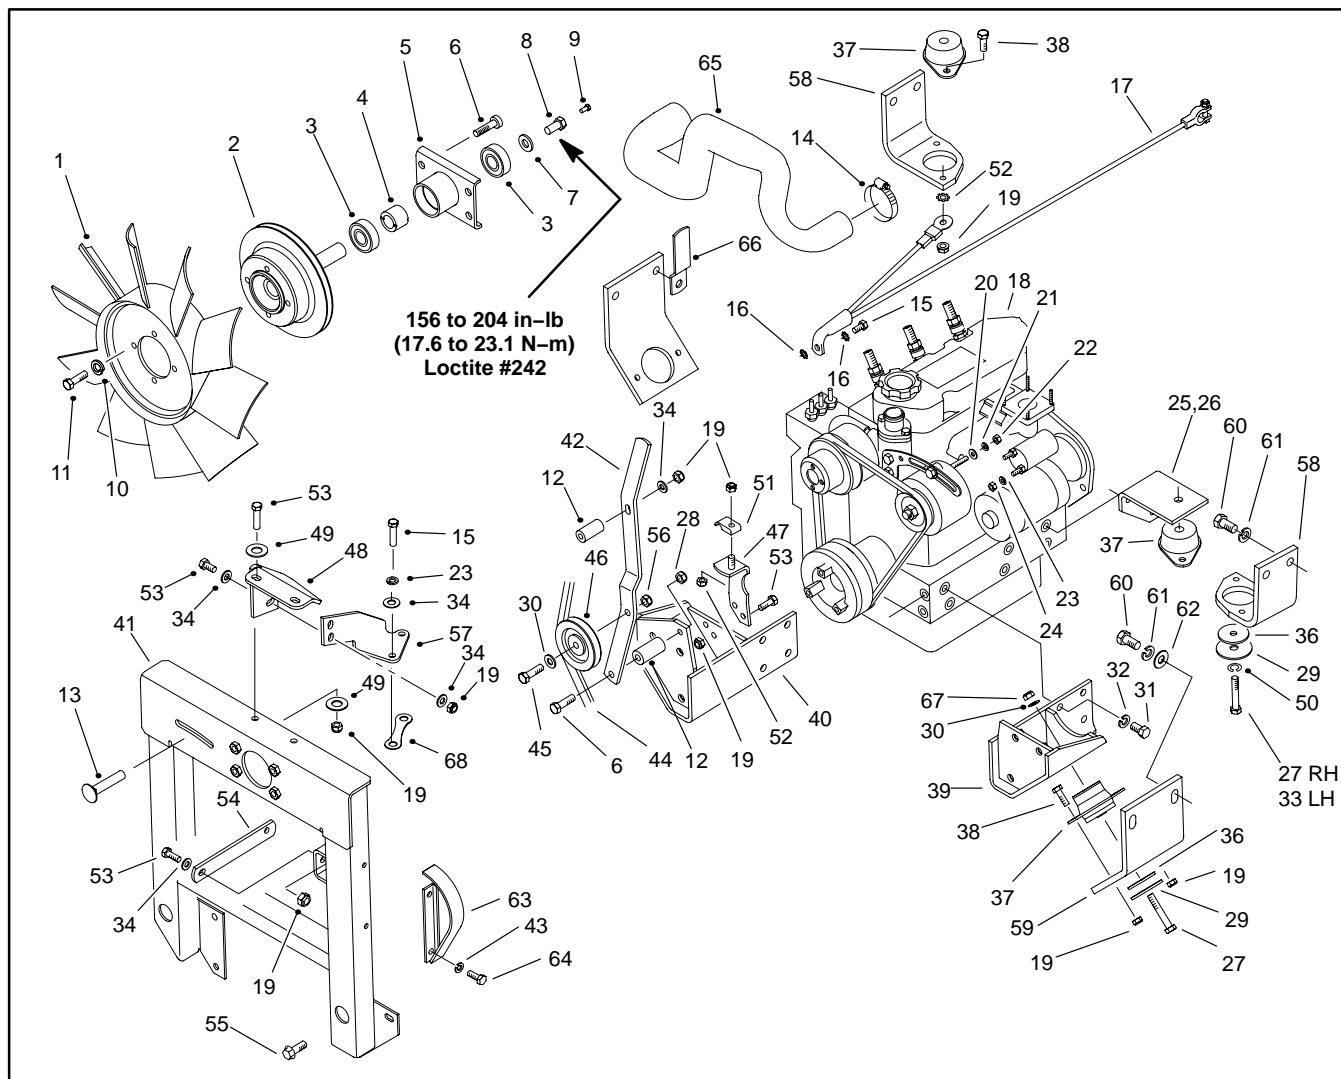

Figure 24
16. Remove engine and fan support brackets from the engine as necessary using Figure 24 as a guide.
1. Install engine and fan support brackets to the engine using Figure 24 as a guide.